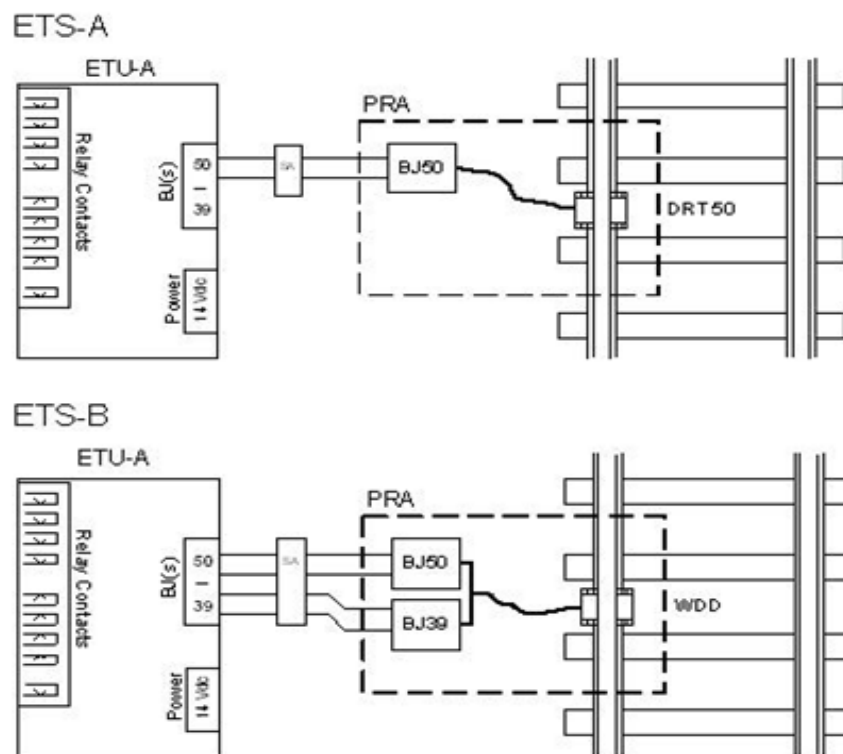

Figure 1 – Equipment Layout
- This 'treadle' uses the same rail contacts and junction box as the GE (SCA2) axle counter systems. See Figure 1.